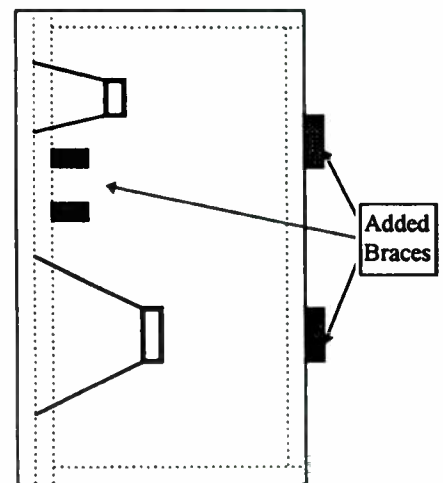

FIGURE 3: Bracing the inside and back of the cabinet.
11. And while you're in there, why not brace the cabinet? I used two 3/8" x 1" ribs across the baffle inside, glued on edge between the woofer and the mid-tweet holes. Cutting another baffle board to double-thick the original is even better, if you're not going to use the grilles. The heavier the baffle the better. On the back, I added two 3" x 3/4" fir ribs flat to the outside. With beveled ends, they aren't visible from the front. Don't stuff the box full of wood; you need air in there (Fig. 3).